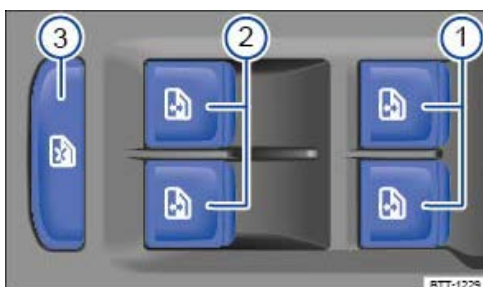

Fig. 87 In the driver door: buttons for the electric windows.
Key to → Fig. 87:
- Press the safety switch  → Fig. 87 © to disable the electric window buttons in the rear doors. The yellow indicator lamp in the button lights up.